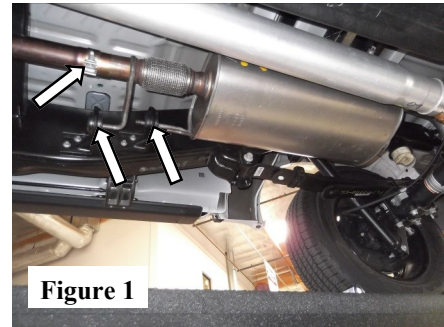

Figure 1
1. Unbolt the clamp located in front of the muffler assembly and remove the hangers from rubber isolators. (See Fig. 1)